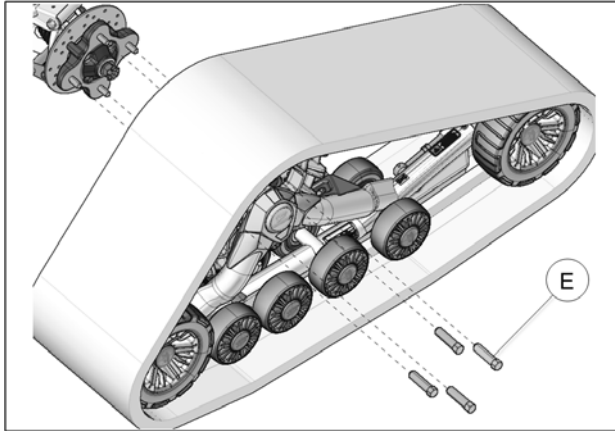

Fig. 10
9. Secure undercarriage to rear hub using the provided M12 lug nuts (E). See Fig. 10
- Using the provided M12 lug nuts (E), secure undercarriages to the front wheel hubs. The procedure and precautions are the same as for rear units. Refer to Fig. 10